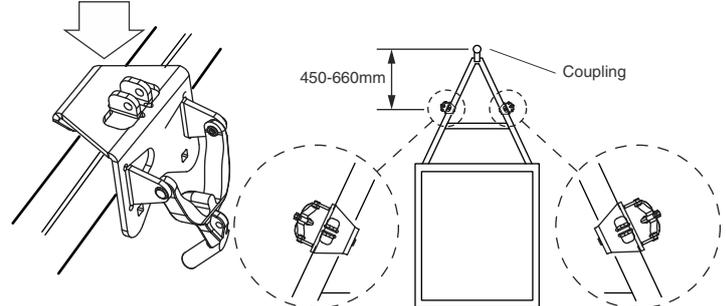

FIG. 5b
- Fit the spring bar retaining plate to the spring bars ensuring that the plate is a minimum of 100mm away from the end of the spring bars (**FIG. 5b**). Take load on the jockey wheel to bring trailer and vehicle to above horizontal